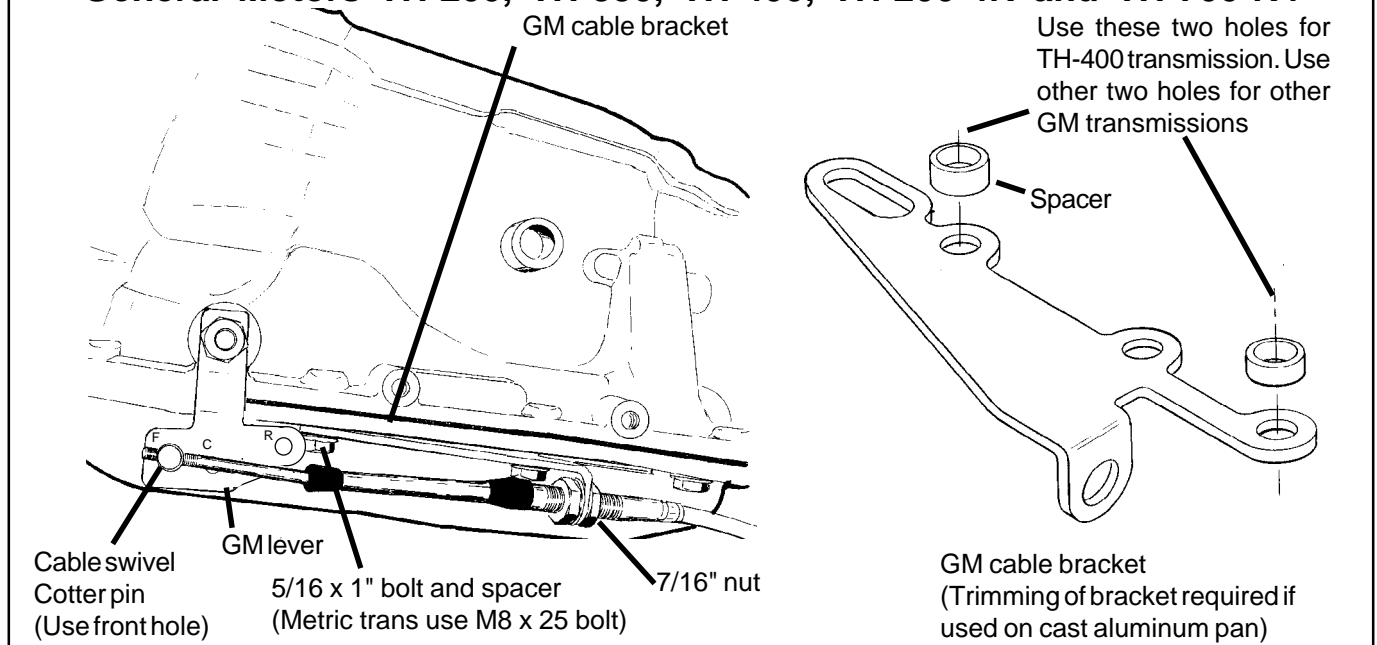

Figure 5
STEP 10. If you have not already done so, remove the stock selector lever nut and the selector lever from the transmission. Discard the stock lever and the stock shifter linkage. Install the **B&M** selector lever in position using the stock selector lever nut (See Figure 5). Torque the nut to 23 lb.ft. The lever should move smoothly from front to rear with a positive click in each gear position.
STEP 11. Remove the two transmission oil pan bolts from the middle of the left side of the oil pan. Install the cable bracket in position (See Figure 5). The bracket must be installed with two spacers between the pan and the bracket. (If your transmission is equipped with a cast aluminum oil pan, these spacers should be omitted. With a TH-400 with a cast aluminum oil pan the cable bracket may have to be modified.) Install the two 5/16-18 x 1.00" bolts (Metric transmissions use the two 8mm x 25mm bolts) supplied and tighten to 12-13 lb.ft. Do not over-tighten as this can damage the pan gasket.